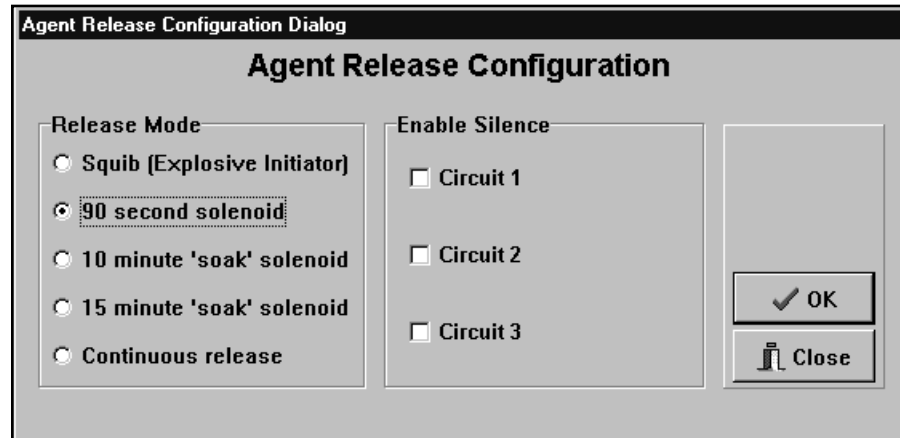

FIGURE V-13
2. Click on the Edit button. The Agent Release Configuration screen is displayed. See Figure V-13.